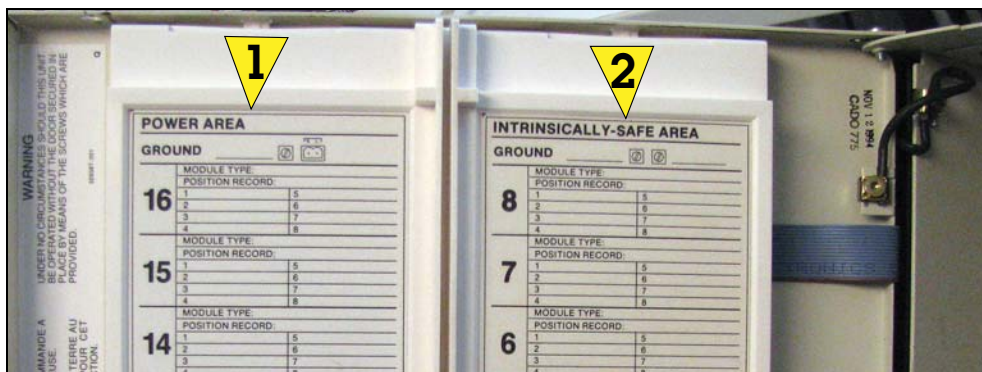

Figure 3. Display/Keyboard Cover Wiring Input Label Positions (330636-000 Labels Shown)
5. Remove the backing from the Power Area input label and press it into the left partition (1) on the back of the cover. Remove the backing from the Intrinsically-Safe Area input label and press it into the right partition (2) on the back of the cover (see Figure 3).